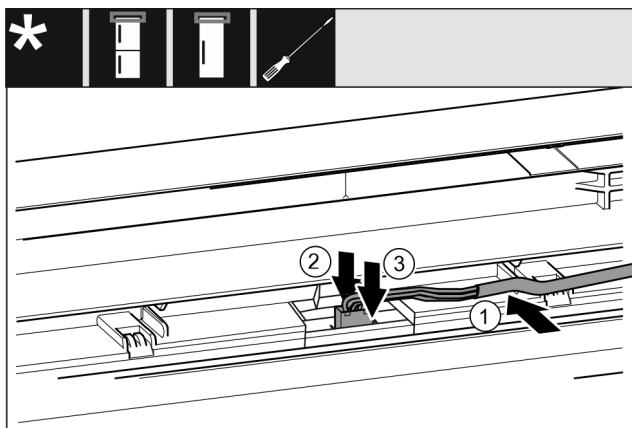

Fig. 32
- ▶ Insert the grey cable into the guide in the top door. Fig. 32 (1)
- ▶ Press back the latching lug Fig. 32 (2)
- ▶ Engage the plug. Fig. 32 (3)